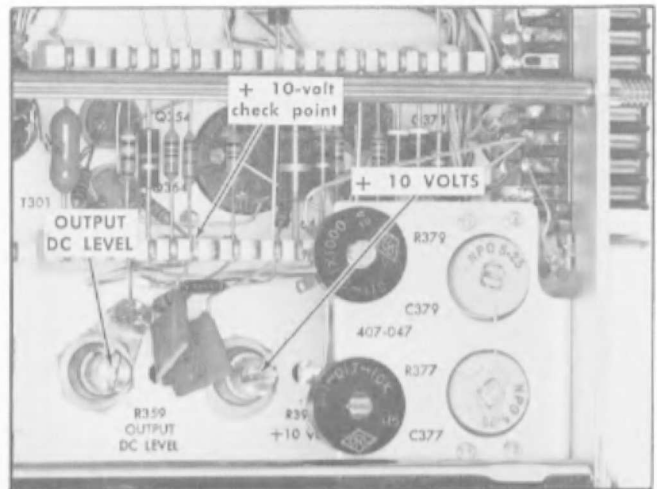

Fig. 7-5. Location of Output DC Level and +10 Volts adjustments and +10 volt test point.
- f. Adjust—OUTPUT DC LEVEL of the Type 1A2 for a meter reading of exactly 67.5% of the measured +100-volt supply. See Fig. 7-5 for location.
- b. Connect the DC voltmeter between the +10-volt test point and ground. See Fig. 7-5 for location.